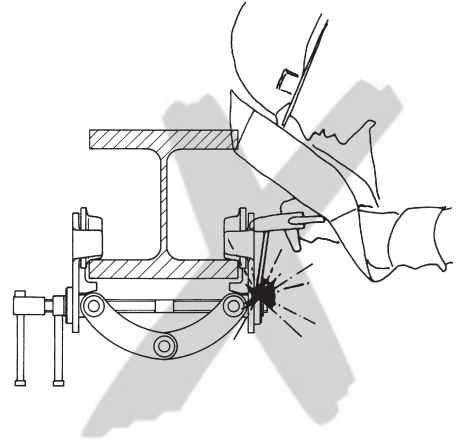

Fig. 2
- Welding work on the unit is prohibited. The unit must never be used as a ground connection during welding (Fig. 2).